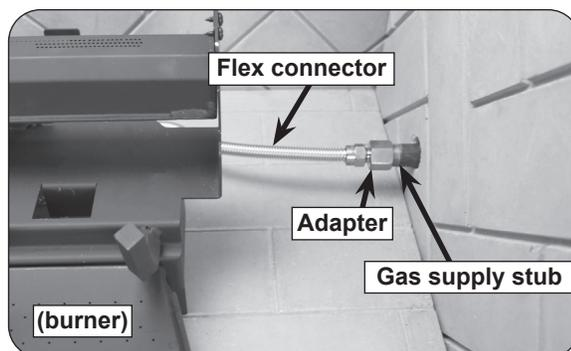

Fig. 15-1 Connect gas supply
2. Locate the gas-supply stub inside the fireplace and remove the cap, if attached (reference Fig. 15-1).
4. **Be sure gas to the fireplace is off.** Remove the adapter connected to the flex connector (pre-installed on the burner system). Attach the adapter to the gas-supply stub using a pipe compound resistant to all gases. Tighten securely. Then attach the open end of the flex connector to the adapter. Tighten securely. (See Fig. 15-1.)